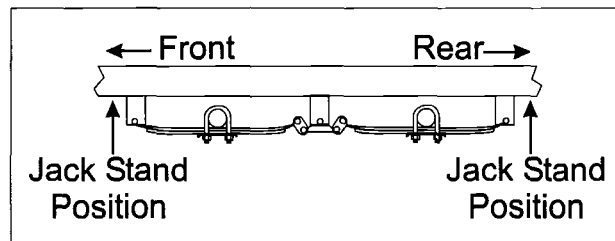

Fig. 3
5. Install a jack stand support of sufficient capacity under the frame as close to the rear of the axle tie plate as possible. (Fig. 3).
6. Install a second jack stand support of sufficient capacity, under the frame as close to the front of the axle tie plate as possible. Slowly lower the jack down until all of the weight is resting on the jack stand support (Fig. 3).
7. Remove the lug nuts and the two (2) wheels from the raised side of the trailer.